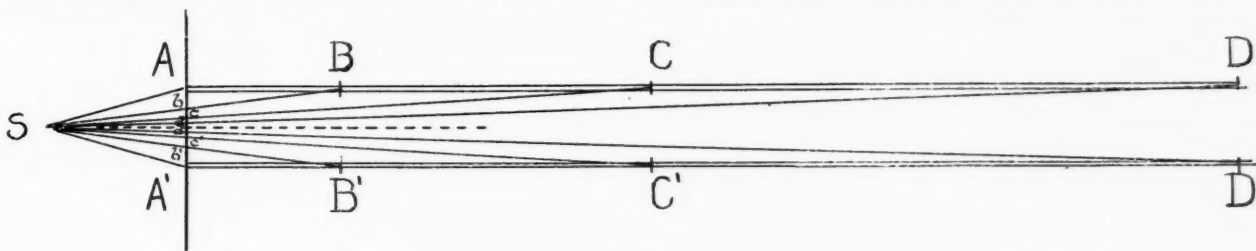
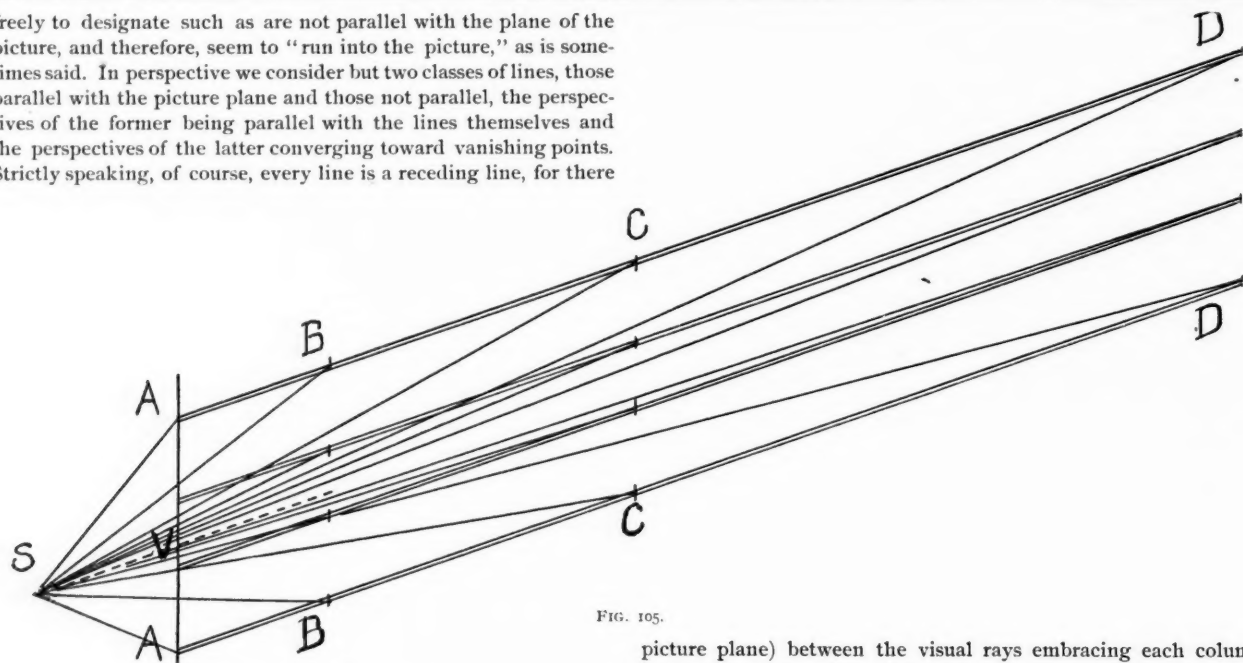

FIG. 104.
FIG. 105.
86. Fig. 105 is similar to Fig. 104 except that there is a double track and both are oblique to the plane of the picture. Our dotted line, parallel with the rails, now denotes an oblique line of vision (Section 74) and the point *V* where it pierces the picture plane is an oblique point of sight or vanishing point. It will be easy to see how of necessity the visual rays from distant points of the rails must pierce the picture plane nearer and nearer to *V*, while they can never pass it and will actually reach it only when the point of the rail from which the ray proceeds is infinitely distant.
ishes. In Fig. 104 the perspective of *AB* is *Ab*, which is one-half of the distance from *A* to the point of sight. But *b c*, the perspective of *BC*, is about one-third of *Ab*, although *BC* is twice *AB*. *CD* is four times *AB*, but its perspective, *cd*, is scarcely visible.